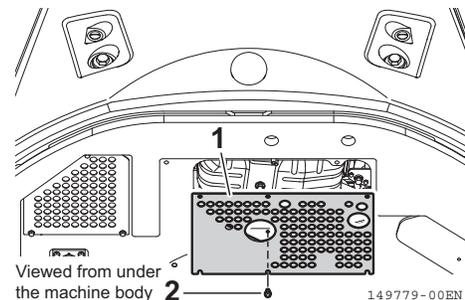

Fig. 8-53
3. Remove the cover (**Fig. 8-53, 1**) under the engine at the rear of the upperstructure by loosening the fixing bolt (**Fig. 8-53, 2**).